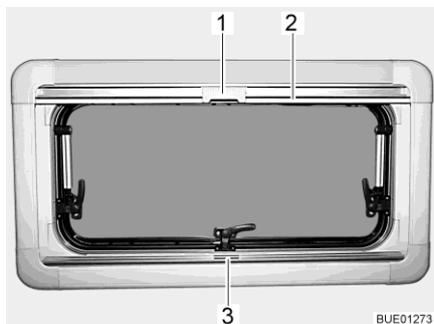

Fig. 86 Hinged window
- Grip the Roman shade in the centre of the holding bar (Fig. 86,3), pull it from the bottom to the top and then release it at the desired height. The Roman shade will stay at this height.
- Pull the insect screen down using the holding bar (Fig. 86,2), until it touches the holding bar of the Roman shade (Fig. 86,3).
- Clip the catch (Fig. 86,1) on the insect screen into the handle of the Roman shade.
- Push the catch (Fig. 86,1) on the insect screen inwards.
- Move the insect screen back slowly on the holding bar (Fig. 86,2).